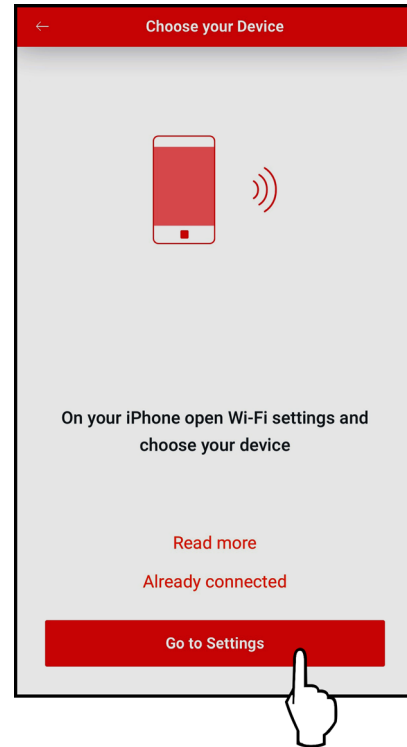

Figure 94. Go to Settings
- Press the "Go to Settings" button on the "Choose your Device" screen. See **Figure 94**.